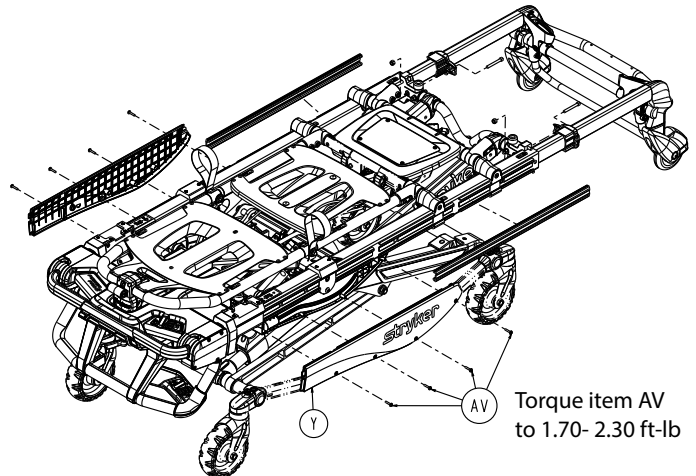

Figure 72 – Remove the slider block cover screws
8. Using a T25 Torx driver, remove the four round washer head tapping screws (AV) that secure the slider block cover (Y) to the slider block (Figure 72). Save the screws.